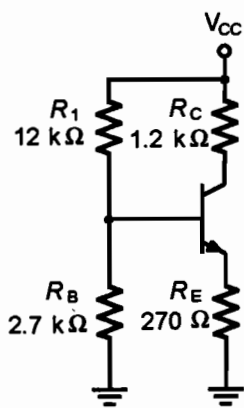

Figure 15.1
1. Construct the circuit shown in Figure 15.1. Set the DC power supply to 12 V, and connect the power supply to your circuit.
1. Modify your circuit of Figure 15.1 by replacing the 2.7-k $\Omega$  resistor with the 2.2-M $\Omega$  resistor.
4. If you used the quick method of your text for solving the firm or stiff divider for the circuit in Figure 15.1, do you believe this would give a satisfactory value for emitter current? Explain your answer.
1. The circuit in Figure 15.1 is near mid-point bias.
2. The saturation current of the circuit in Figure 15.1 is \_\_\_\_\_.